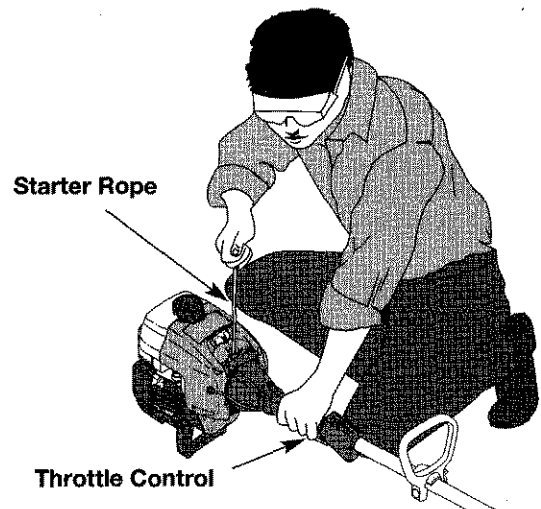

Fig. 9
WARNING: Avoid accidental starting. Be in the starting position when pulling the starter rope (Fig. 9). The operator and unit must be in a stable position while starting to avoid serious personal injury.
5. With the unit in the starting position (Fig. 9), squeeze the throttle control to the wide open (full throttle) position and pull the starter rope briskly 5 times in the **FULL** choke (A) |←| position. If the engine attempts to run before the fifth pull, proceed to step 6.
7. Pull starter rope briskly 1 to 3 times to start the engine (Fig. 9).
1. Release your hand from the throttle control (Fig. 9). Allow the engine to cool down by idling.
For edging when using the line head cutting attachment with Click-Link® models, lock the release button of the cutting attachment into the **90° edging hole** or the **180° edging hole** (Fig. 9). The edger add-on should be installed with the release button in the **primary hole**.